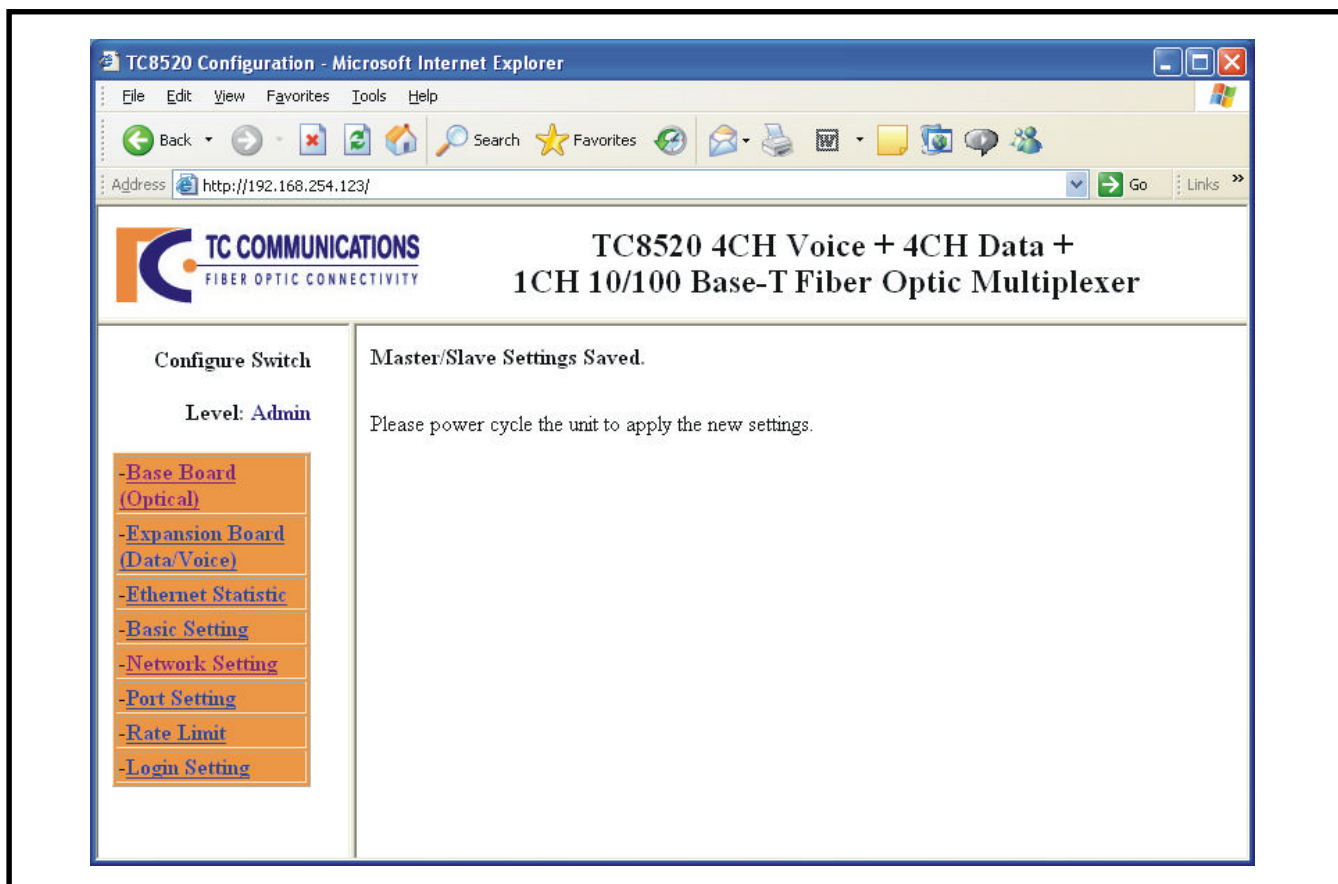

Figure 24. TC8520 Slave Configuration
- b) After you click the "Save" button, you will be prompted to cycle power to the unit to apply the new settings as in Figure 24.